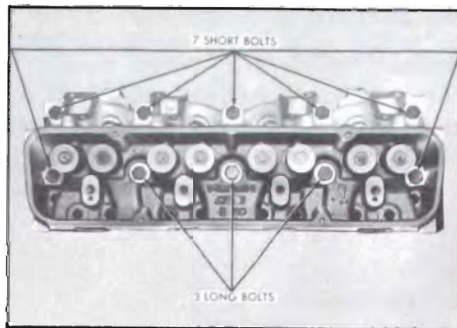

Figure 2-28—Cylinder Head Bolt Installation
5. Clean and lubricate the head bolts with "Perfect Seal" sealing compound. Install bolts as shown in Figure 2-28.
6. Tighten the head bolts a little at a time about three times around in the sequence shown in Figure 2-28, then torque the bolts in the same sequence to 70-75 ft. lbs.